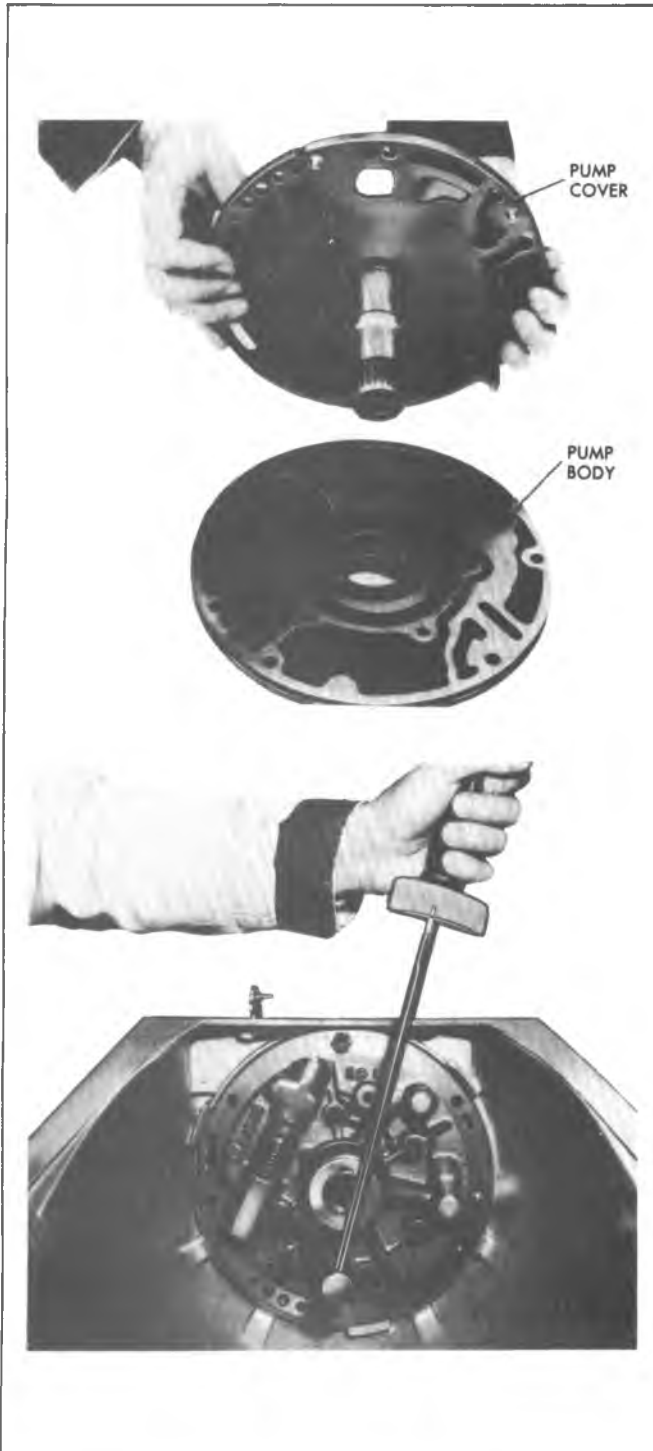

Fig. 7A-78C--Aligning and Installing Pump Cover to Pump Body
3. Install spacer(s) if used, retainer and spring, into pressure regulator bore (Fig. 7A-77C).